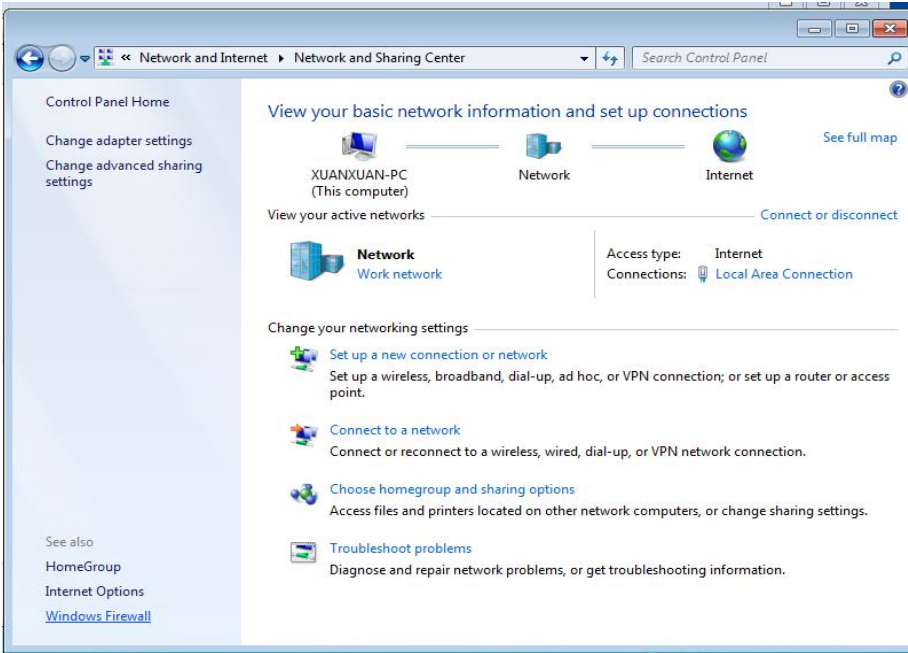

Fig.1.16 Network and Sharing Center
(3) Click “Windows Firewall” (see Fig.1.16).